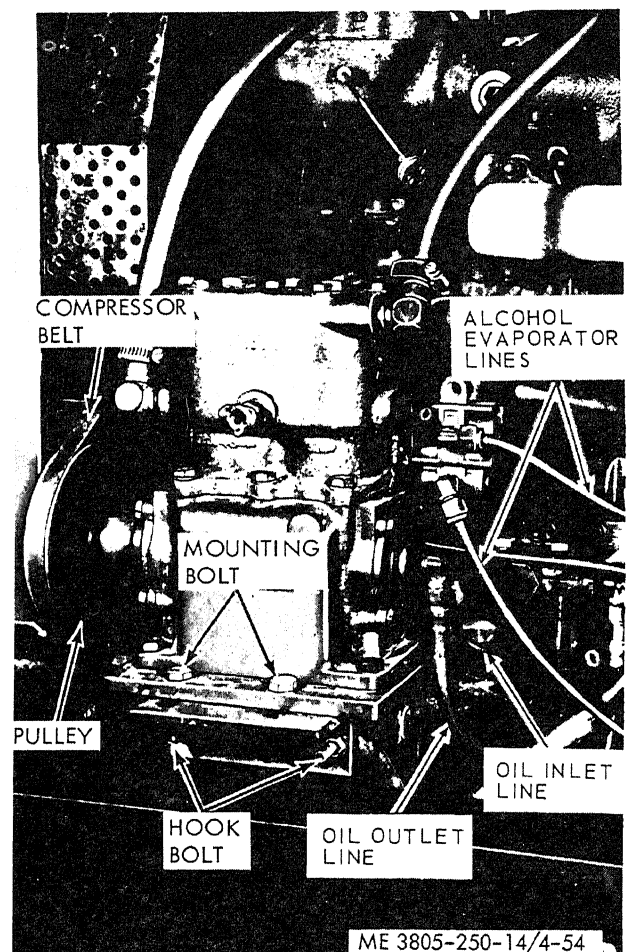

Figure 4-54. Air compressor.
Page 4-42, paragraph 4-65c, subparagraph (1) is changed to read "1. Loosen the two air compressor mounting bolts (fig. 4-54)".
a. Removal. Refer to figure 4-54.
(1) Block the wheels and apply the parking brake.
(2) Remove the right engine side panel.
(3) Drain the air reservoirs (para. 3-19).
(4) Disconnect the inlet hose, outlet hose, governor outlet line, oil inlet line and oil outlet line from the air compressor. Disconnect lines to the alcohol evaporator. Cap or plug lines and fitting as soon as they are disconnected.
(5) Loosen the hook bolts and slide the compressor inward to release the belt.
(6) Remove the mounting bolts, and remove the air compressor from the loader.
(1) Install the air compressor in the reverse order of removal (subparagraph a).
(2) Adjust the belt tension (para. 4-65). Figure 4-54, the illustration is replaced with the following corrected illustration: